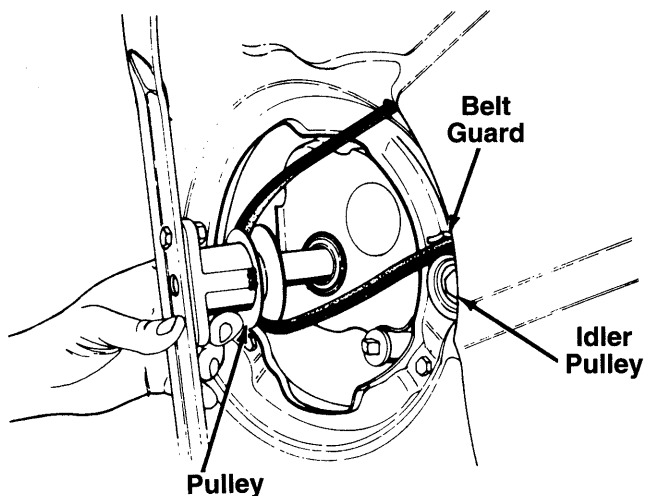

FIGURE 22.
- C. Release the idler pulley so it falls down into position. Slide the belt in between the idler pulley and belt guard on the idler pulley bracket as shown in figure 22.